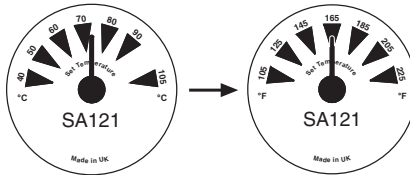

Fig. 3 Selection of temperature scale °C or °F
1. Remove the tamper-proof plug (6) and use a suitable screwdriver to set the indicator (3) to the midway mark (1).
2. Remove the transparent cover (2).
3. Remove the temperature indicator (3).
4. Remove the temperature indicator scale (4) and select °C or °F (Double sided) as required (Figure 3) and replace.
5. Replace the indicator to the midway position (1).
6. Replace the transparent cover (2).